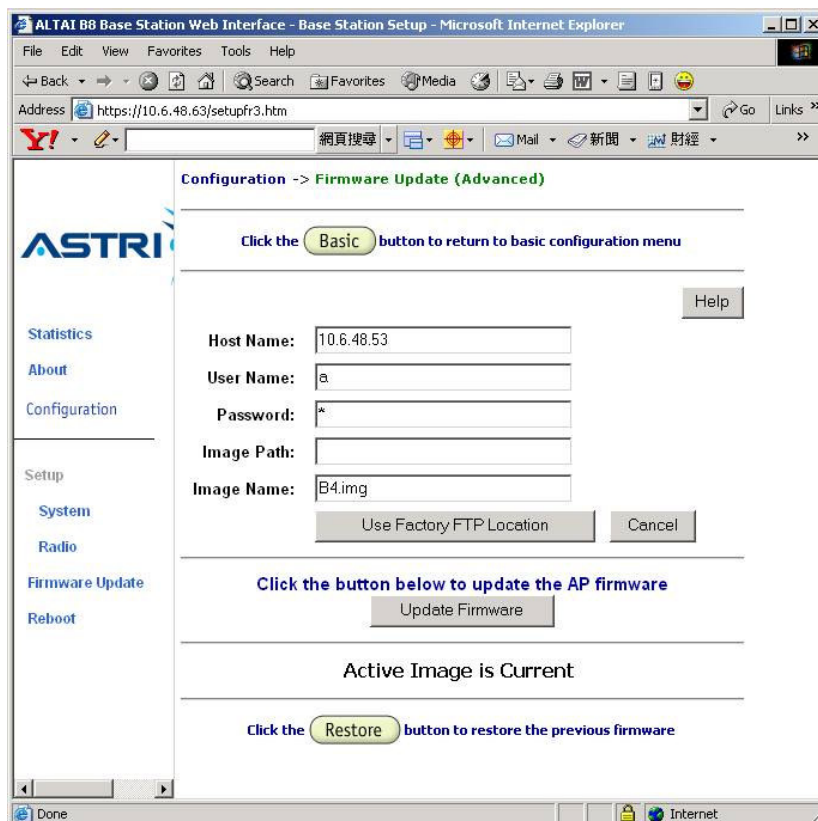

Figure 28. Firmware Update (Advanced) – Web-admin
1. Update the FTP information, as shown in Figure 28.